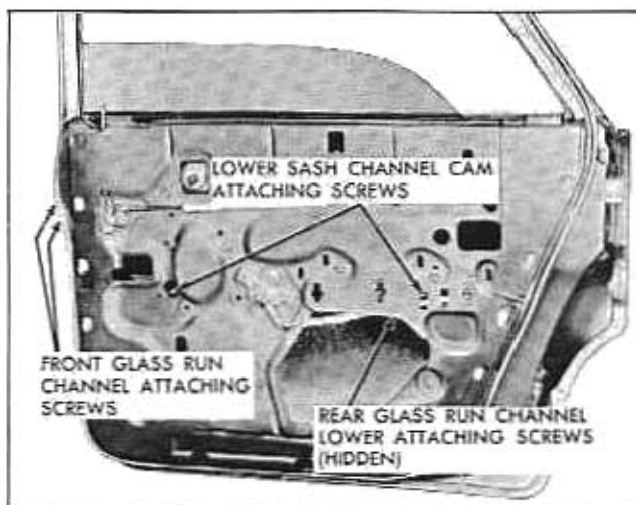

Fig. 2-39 Rear Door—69 Styles
2. Remove front glass run channel lower attaching screws from hinge pillar facing of door inner panel (Fig. 2-39).
1. Raise door window. Remove door trim assembly and detach inner panel water deflector sufficiently to gain access to rear glass run channel lower attaching screw and remove screw (See Fig. 2-39).
2. Remove glass run channel lower attaching screws from hinge pillar facing of door. (Fig. 2-39).
3. Remove lower sash channel cam attaching screws and disengage cam from sash channel. (Fig. 2-39).
4. Remove lower sash channel cam attaching screws and disengage cam from sash channel (Fig. 2-39).